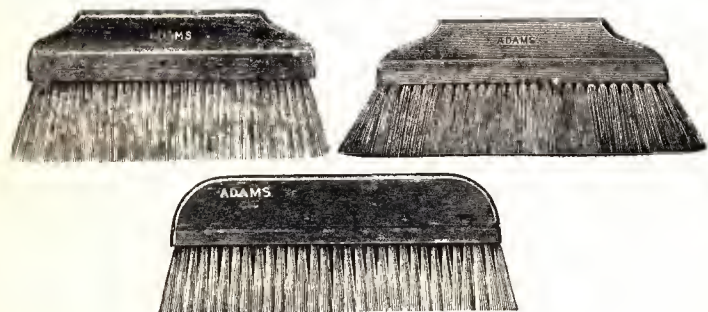

FIG. 25
**Sweep Brushes:** Every paperhanger should have in his equipment at least five sweep brushes, although it is possible to get along with one. These brushes are made in several lengths and different kinds of material. For heavy and ordinary grades of papers, a rather stiff brush is needed, of about seven inches in length. The paperhanger should have two of these in order to have one clean brush at hand, when the brush in use becomes clogged up with the color from the surface of the paper, which causes the brush to scratch the surface. For delicate papers, he should have a soft haired brush of the same length and also two of these for the same reason. For ceiling work he should have an extra long and soft bristled brush. (See Fig. 25.)